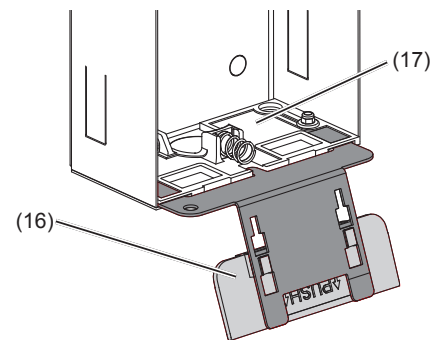

Figure 5: inserted opening tool
(15) Support bracket of the fastening elements
- Insert opening tool (16) into the mounting device of the lower fastening element (17) on the housing (Figure 5).